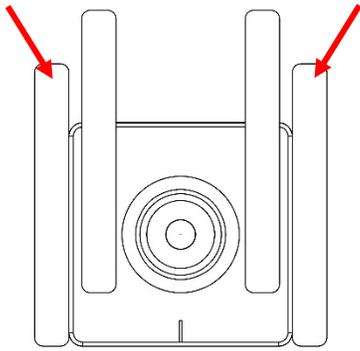

Fig 10
- Remove the hood deflector and outline the perimeter of the (4) Adhesive Pedestals with masking tape or tape strips to help with final installation. (Fig 10)